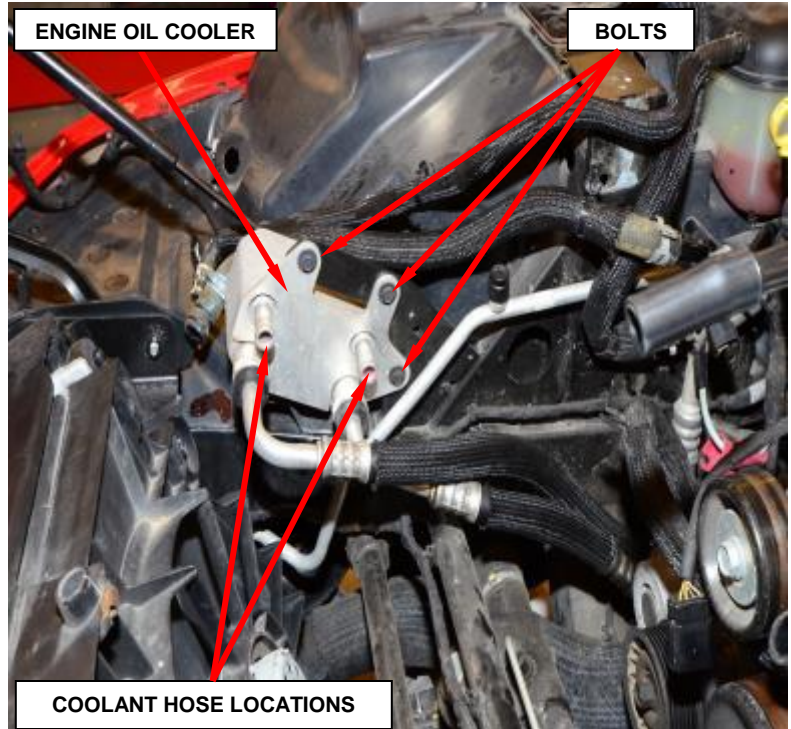

Figure 23 - Engine Oil Cooler
23. Disconnect the two coolant hoses from the engine oil cooler and position aside (Figure 23).
24. Remove and save the three bolts securing the engine oil cooler to the oil cooler mounting bracket and position the cooler with the oil cooler lines attached to the engine (Figure 23).